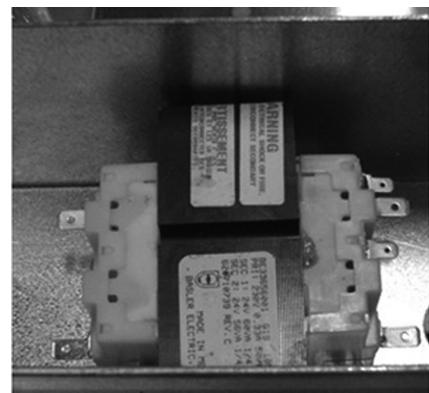

Figure 5. Transformer Mounting Orientation
- Mount the new transformer with four (4) terminals (two terminals with black caps) toward the right hand side as shown in Figure 5.